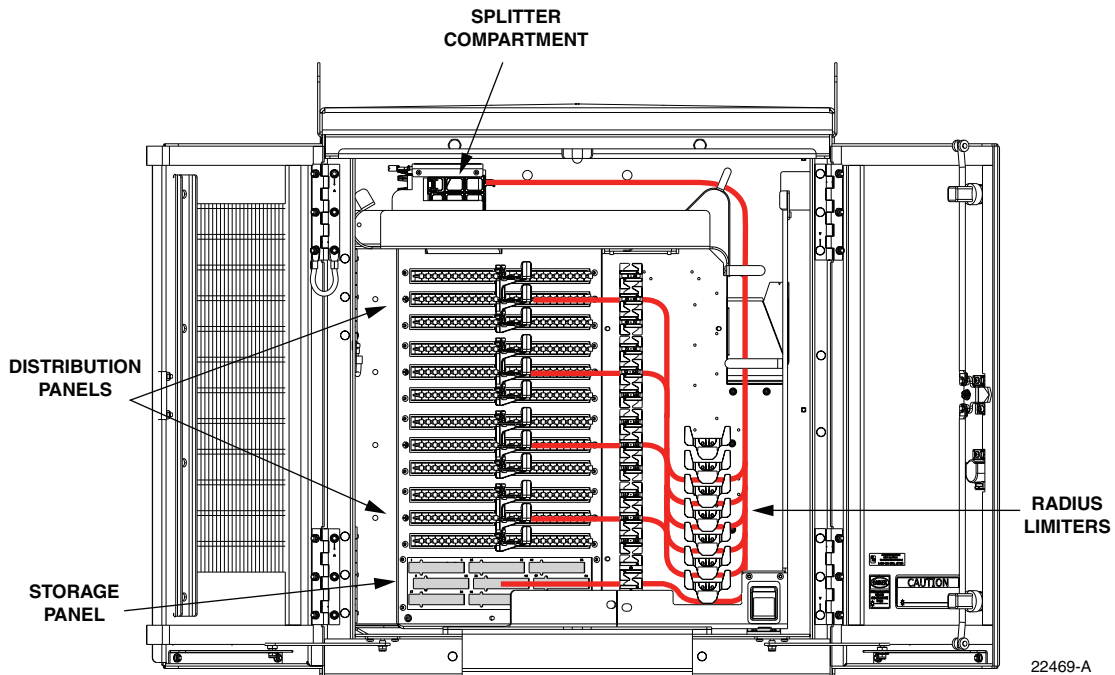

Figure 12. Routing Splitter Output Fibers
3. Use the radius limiters on the right side of the cabinet to store any excess fiber slack. Refer to Figure 12 for the routing guidelines.
6. Use the radius limiters on the right side of the cabinet to store any excess fiber slack. Refer to Figure 12 for the routing guidelines